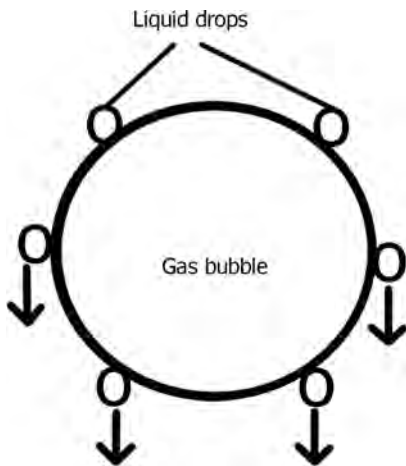

FIGURE 15.6 Rising gas bubble in liquid.
- > For example, rising gas bubble in a liquid (Figure 15.6): Particle of liquid, initially at top of bubble, is in contact with gas for time θ required for the bubble to rise a distance equal to diameter of the bubble.